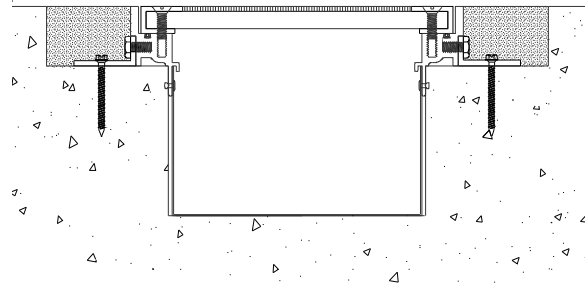

Figure 8
STEP 13. Install the tile into the cover plate recess at the time of installation of the finished floor, see Figure 8. Install the tile in accordance with the tile and adhesive manufacturers' instructions.